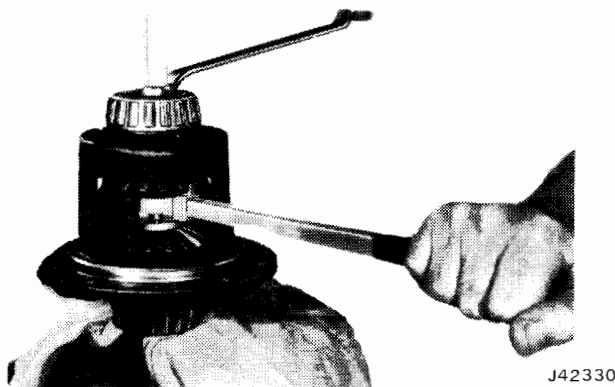

Fig. 10-70 Removing Pinion Gears
(16) Tighten forcing screw until a slight movement of differential pinion gears is observed.
(17) Insert pawl end of gear rotating tool between teeth of one differential side gear. Pull handle of tool to rotate side gears and pinion gears. Remove pinion gears as they appear in case opening (fig. 10-70).